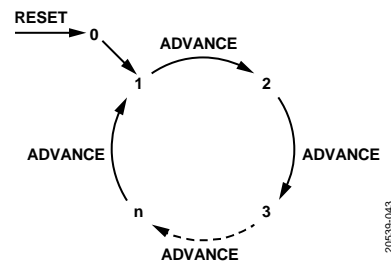

Figure 42. State Machine Position Loop
Figure 42 shows how the state machine pointer moves through a loop. In this diagram, n is the total number of states inside the loop. Because the sequencer depth bit field is 0 indexed, n is equal to one more than the value in the sequencer depth bit field.
- Bits 0 to Bit 3: `MULT_STATES`. These bits set the number of states in the loop (see Figure 42).
- Bit 0 to Bit 3: RX_STATES. These bits set the number of states in the loop (see Figure 42).